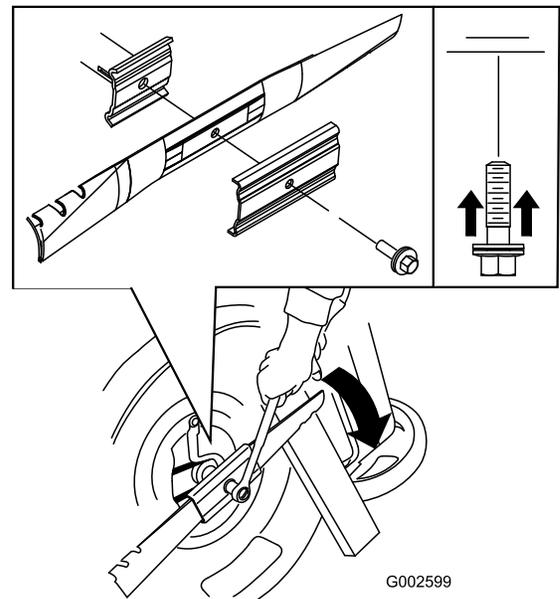

Figure 33
3. Use a block of wood to hold the blade steady (Figure 33).
4. Remove the blade, saving all mounting hardware (Figure 33).
5. Install the new blade and all mounting hardware (Figure 33).